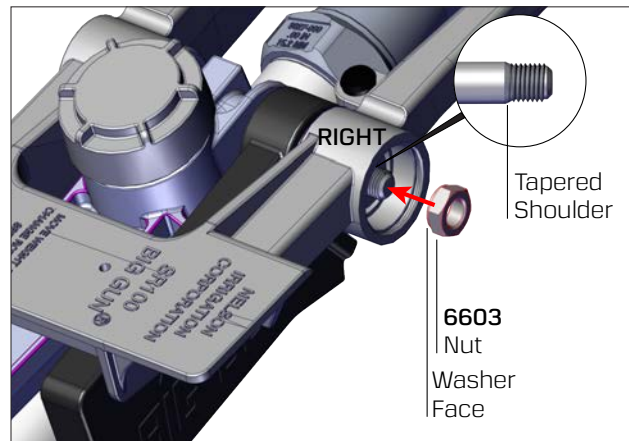

Fig. 21.
- E. Install #6603 nut onto shaft with washer face of nut towards the tapered shoulder of the shaft (see Fig. 21). Torque nut to 25 ft-lbs (34 N-m).